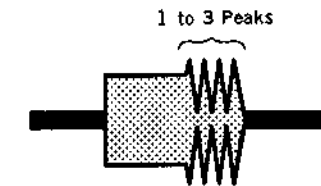

Fig. 2
(2) Check that the RF waveform at the exit side has 1 to 3 peaks in this condition. If not, adjust as follows. (fig. 2)